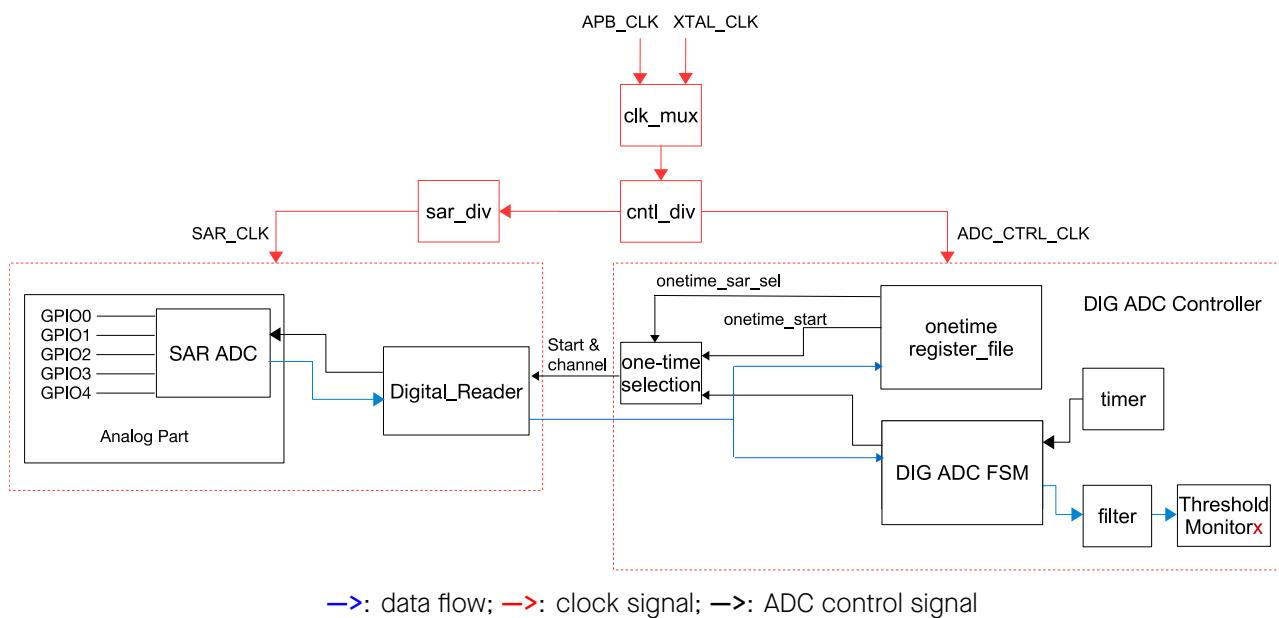

Figure 23-1. SAR ADC Function Overview
The major components of SAR ADC and their interconnections are shown in Figure 23-1.
As shown in Figure 23-1, the SAR ADC module consists of the following components:
- the data is discarded after passing through the filter and the threshold monitor, see Figure 23-1),